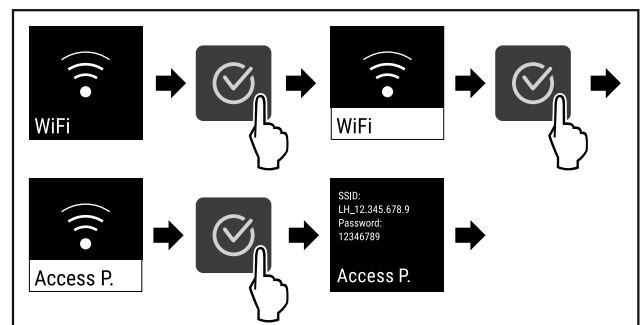

Fig. 85
- ▶ Complete the steps (see Fig. 85).